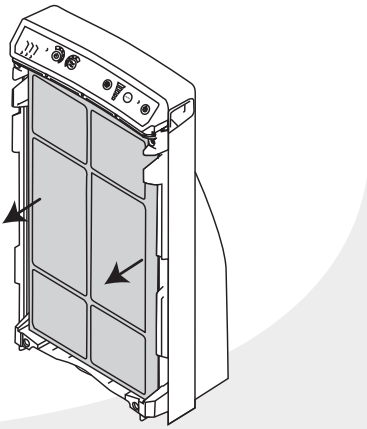

FIG. 26
5. **Pull** the tabs on the old Odor filter to **remove** and **discard** (Fig. 26).